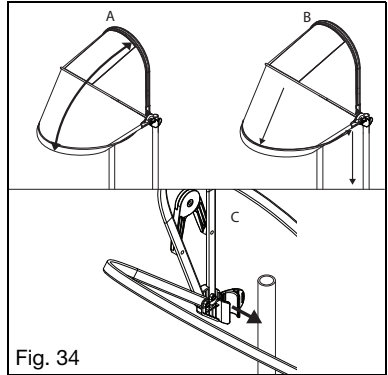

Fig. 34
1. Folding the Canopy (Fig. 34:A)
2. Quick Removal and Quick Install (Fig. 34:C)
3. Rain Catch (Fig. 34:B)